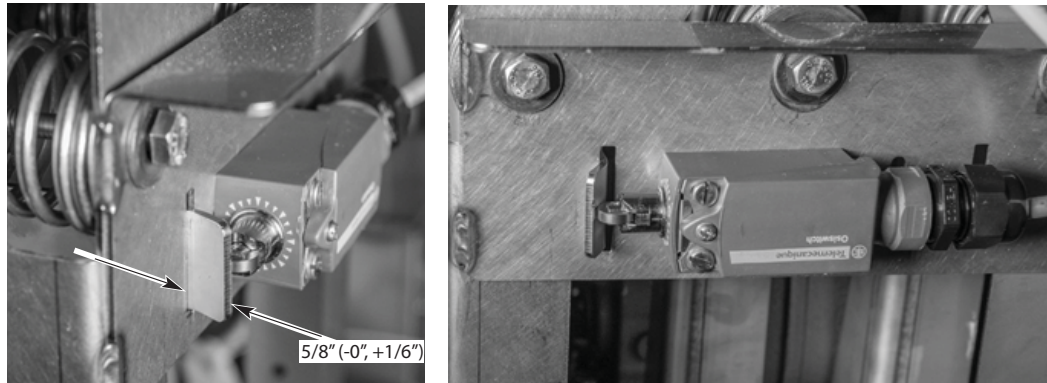

Fig. 44
5. Verify position of conveyor anti-jam actuator plate and jam switch roller plunger to ensure they are positioned as shown below and adjust as necessary (Fig 44).